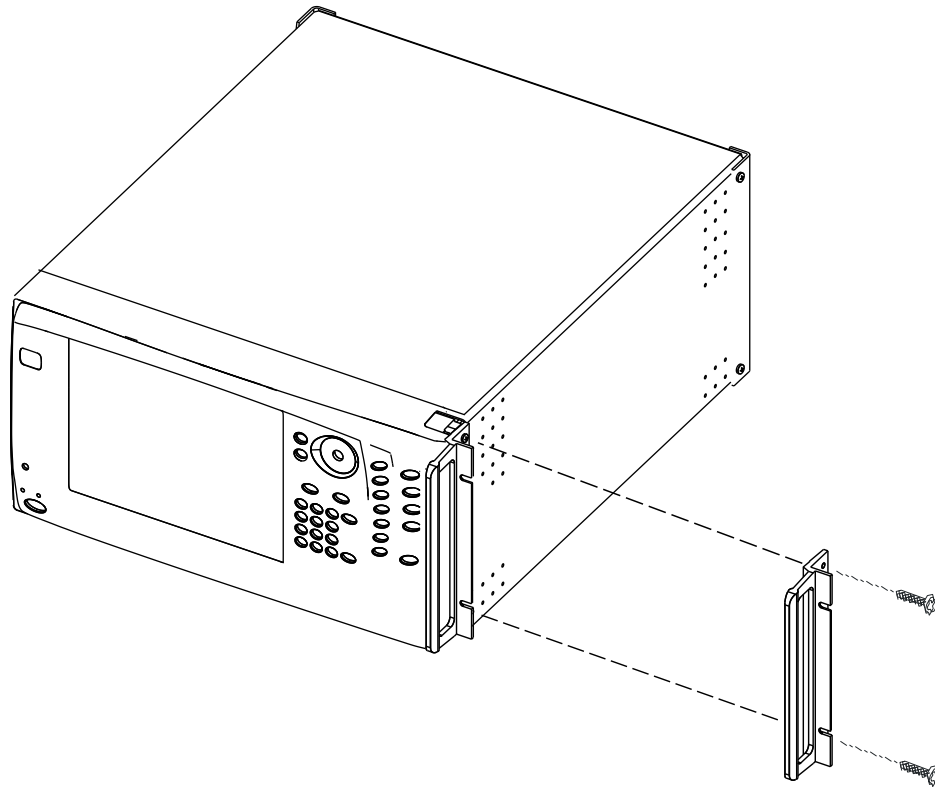

Figure C-2. Attaching Rack Mount Ears to Instrument
4. Install the rack mount bracket onto the instrument sides using the green-headed screws removed earlier (see Figure C-2).